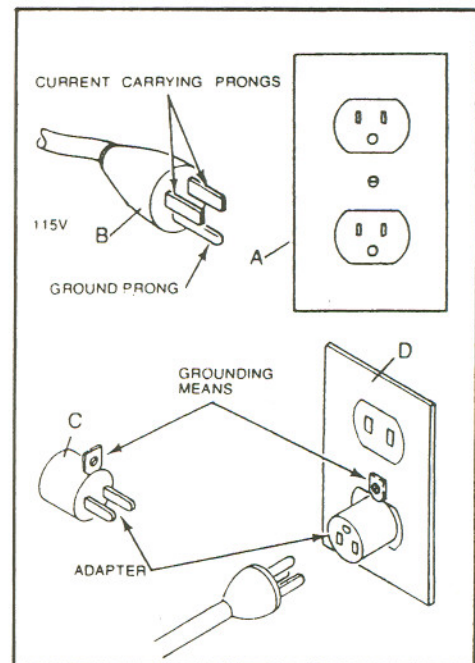
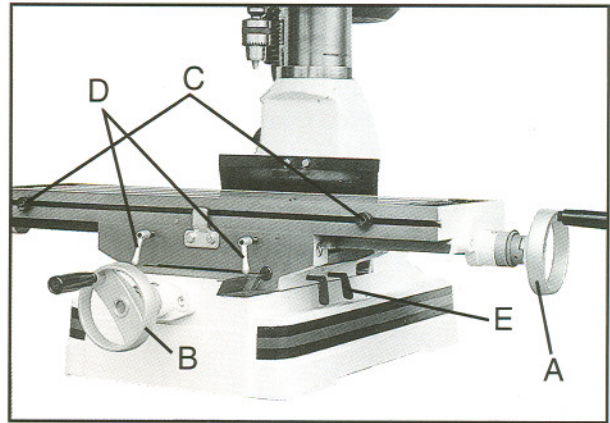

Fig. 5
Fig. 6
The JMD-15 is rated at 115/230V and comes from the factory prewired at 115V. This mill/drill comes with a plug designed for use on a circuit with an outlet that looks like (A) in Fig. 5. The JMD-15 has a grounding prong as illustrated in (B). A temporary adapter (C) may be used to connect the plug to a two pole receptacle (D) if a properly grounded outlet is not available. The temporary adapter should only be used until a qualified electrician can install a properly grounded outlet. The green colored plug must be securely fastened to the cover plate screw.
Longitudinal Hand Wheels (X-axis)(A, Fig. 6) - located on either side of the table. Moves table side to side.
Cross Feed Hand Wheel (Y-axis) (B, Fig. 6) - located on the front of the base. Moves table toward or away from the column.
Adjustable Table Stops (C, Fig. 6) - located on table front. Adjust to stop table at any setting along the longitudinal axis.
Table Locks (D & E, Fig. 6) - longitudinal table (D, Fig. 5) locks are located on front of the table. Cross-feed table locks (E, Fig. 6) are located on the right side under the table. Turn clockwise to lock.